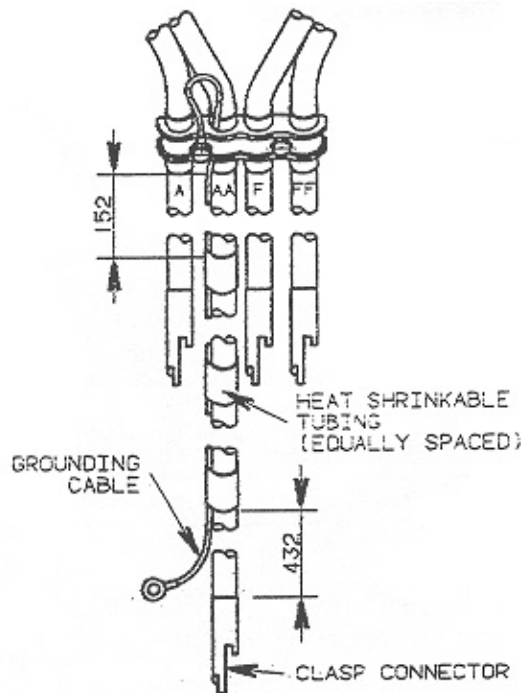

Fig. 37 - External Lead Grounding Cable Application
- a. Attach grounding cable as shown in Fig. 37.
- c. Position three sections of heat shrinkable tubing as shown in Fig. 37